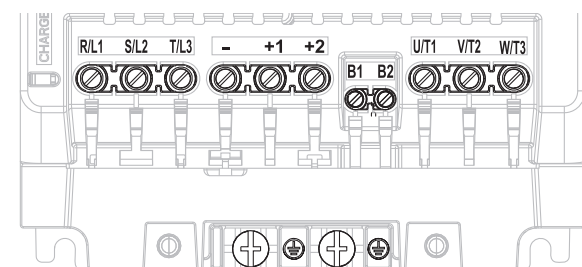

Figure 3 Q2V Main Circuit and Motor Circuit Terminal Layout by Model
- Refer to **Figure 3** for Q2V Main Circuit and Motor Circuit Terminal Layout by Model